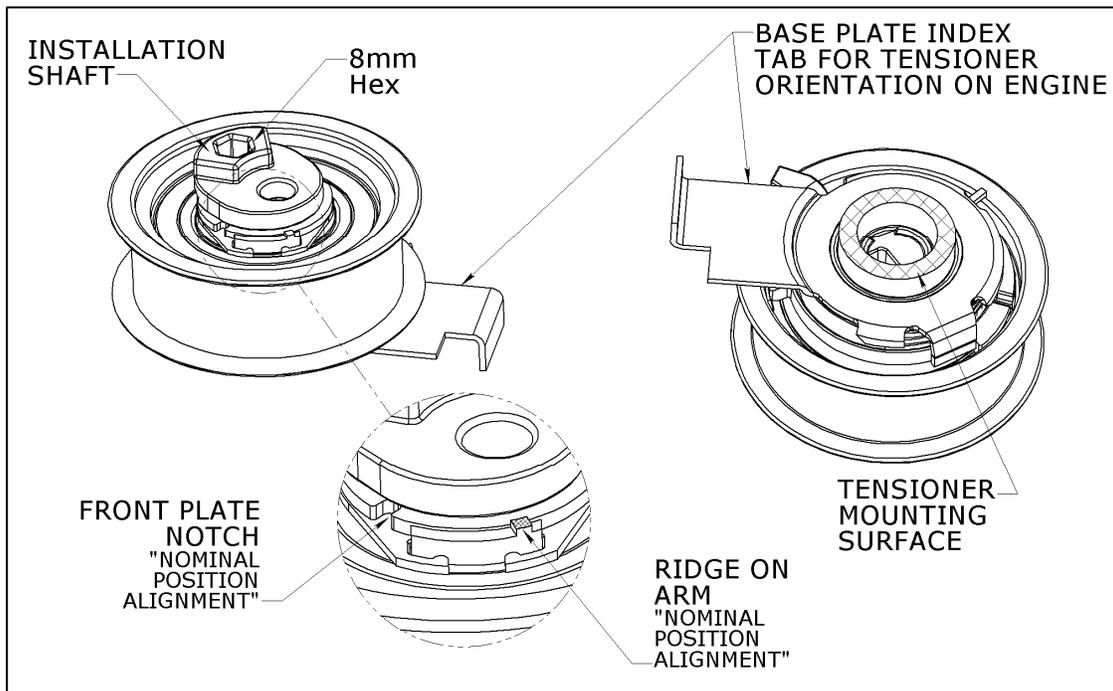

Figure 3: Timing Belt Tensioner shown as shipped
7. Install the tensioner (Fig. 3) on the engine mounting stud ensuring that the anti-rotation index tab of the base plate is engaged in the hole in the timing back cover.